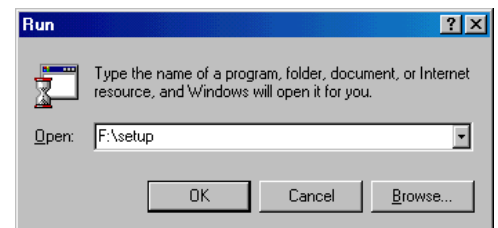

Figure 2: The Run Window
- 3 Type in the letter of the CD-ROM drive followed by “:\setup”. See Figure 2.